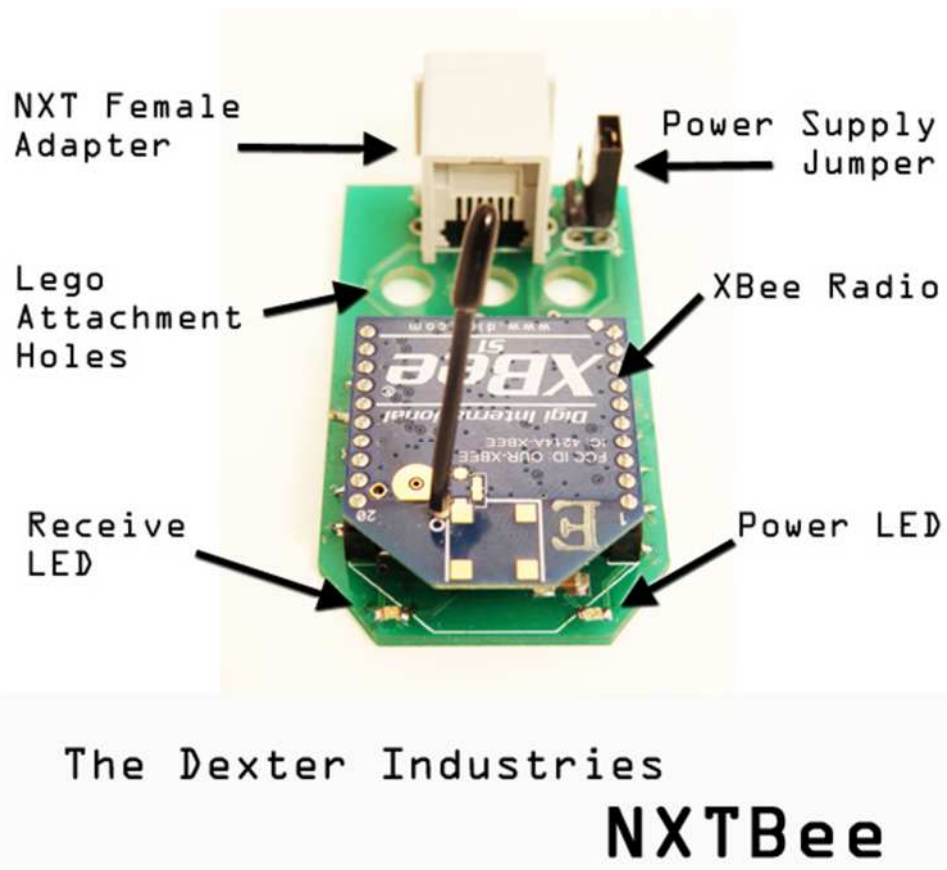

Figure 1: The NXTBee
The NXTBee sensor layout is shown below in Figure 1.
- Before starting, ensure the Power Supply Jumper on the NXTBee is properly configured. See Figure 1 below.